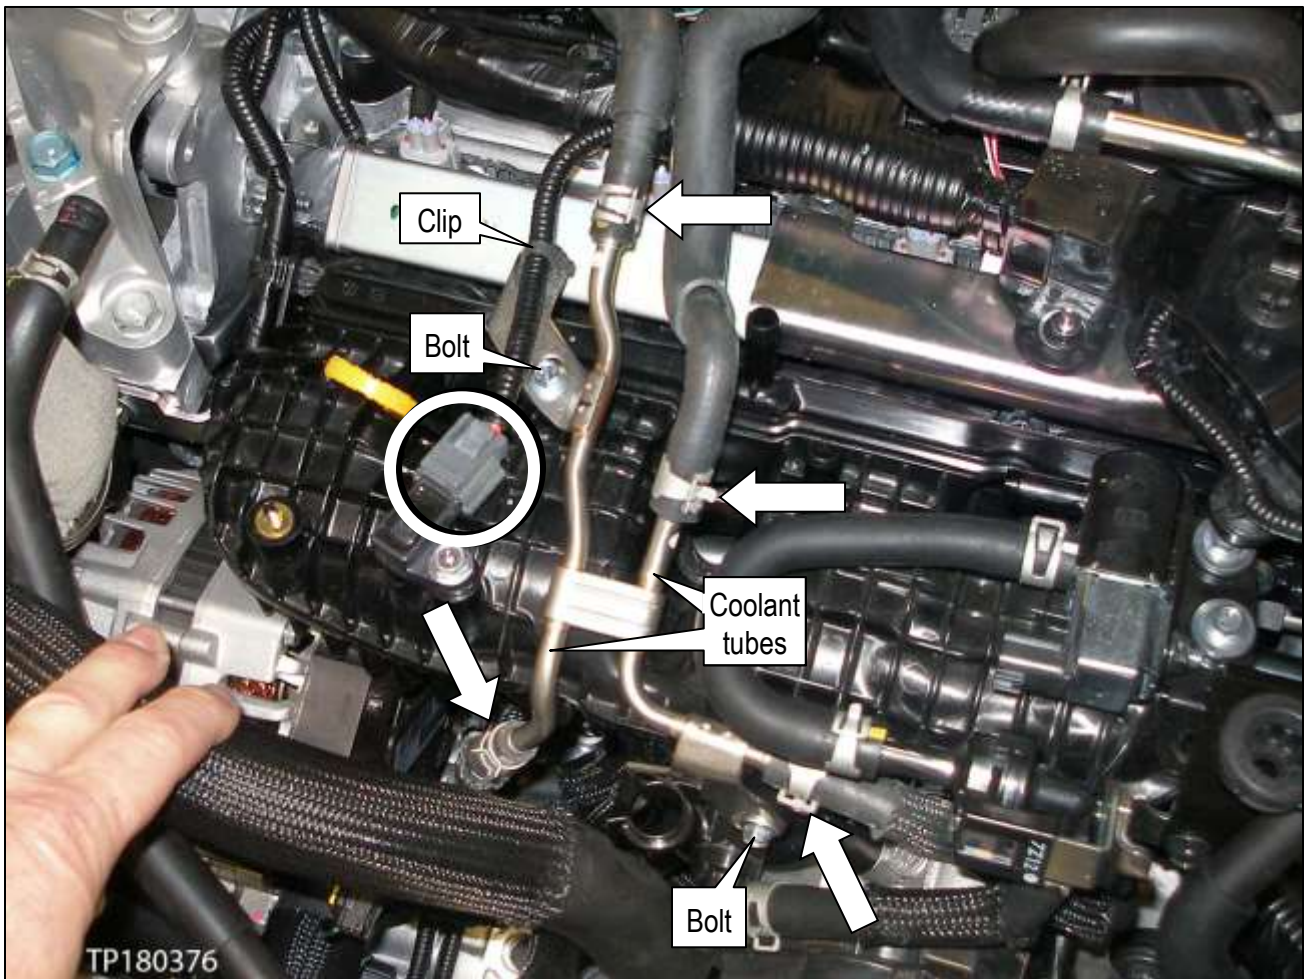

Figure 73
29. Install metal coolant tube assembly (see Figure 73).
30. Connect, and then clamp the one end of each of the four (4) turbo water inlet and outlet hoses to the metal coolant tube assembly (see arrows in Figure 73).
31. Connect the MAP sensor connector (see circle in Figure 73).